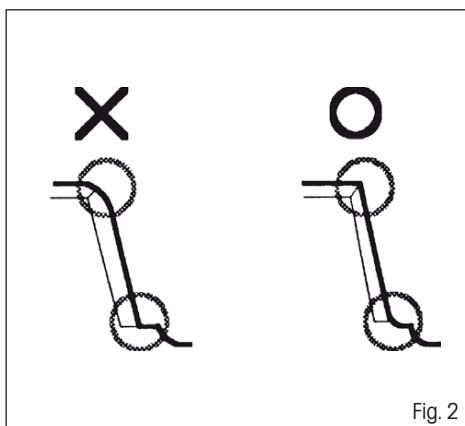

Fig. 2
1. Maintain a sharp end edge on the blade (Fig. 2).